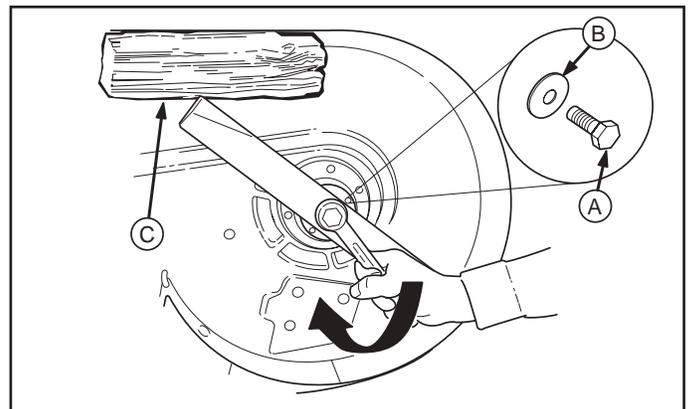

Figure 21
3. Remove capscrew (**A**, Figure 21), spring washer (**B**) and blade.
6. Reinstall the blade (Figure 21) with the airlifts pointing up toward the mower deck as shown.